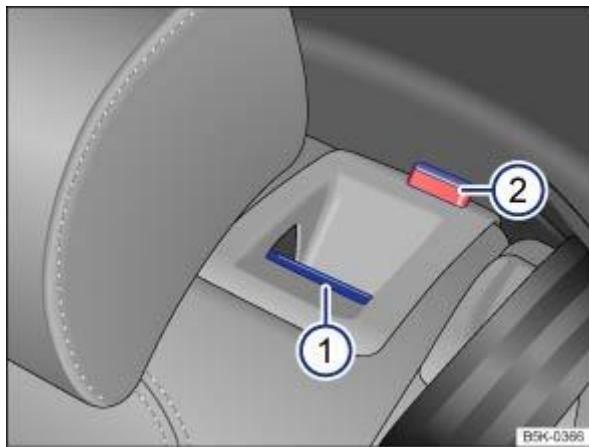

Fig. 71 In the rear seat backrest: release button.
Pull the release button ⇒ Fig. 71① forwards and fold the rear seat backrest forwards at the same time.
The respective section of the rear seat backrest is unlocked when you can see the red marking ⇒ Fig. 71② .
The red marking on the release button must no longer be visible ⇒ Fig. 71② .